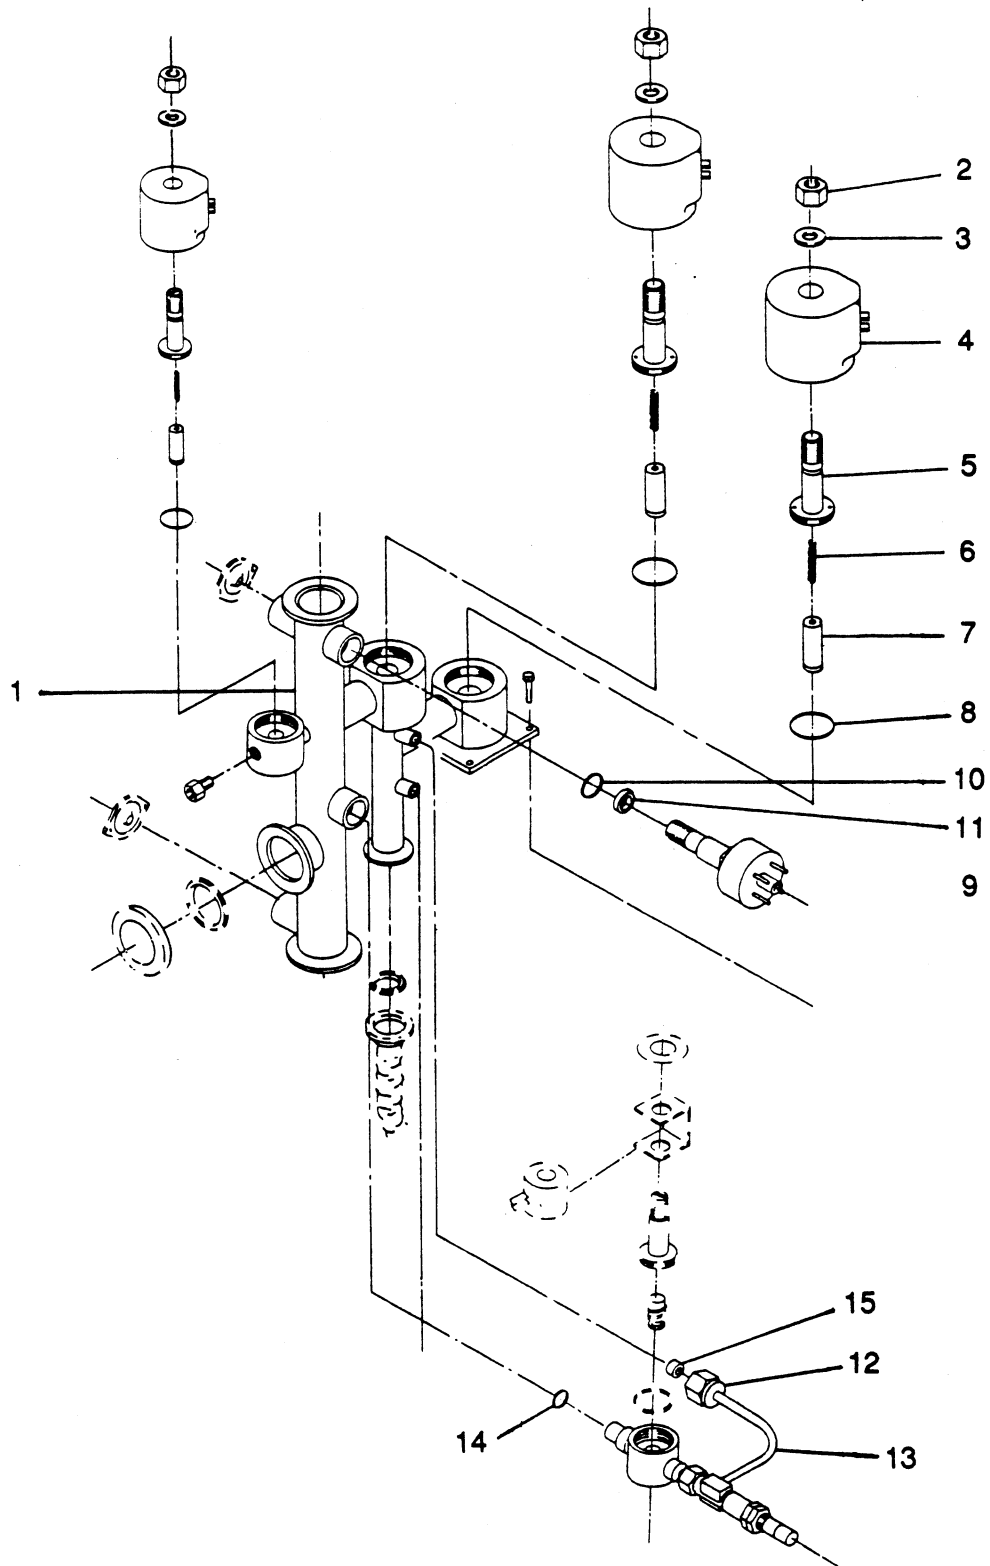

Figure 5-6. Exploded View of Vacuum Manifold
5-3-11 Disassembly of Vacuum Manifold (Refer to Figure 5-6)
- 3 Assemble a new rubber washer (15), and O-ring (14), then insert the gross leak assembly (13) into its appropriate hole as shown in Figure 5-6. The O-ring is gently pushed in similar to a thermocouple gauge and the other end is tightened with a 9/16 wrench.
- 4 Assemble a new O-ring (10) and washer (11), then install the thermocouple gauge (9) by gently pushing and twisting the gauge body into its appropriate hole.
- a Place the valve spring (6) on the valve actuator (5).
- b Place a new valve actuator O-ring (8) in the vacuum manifold (1).
- c Screw the valve actuator (5) into the vacuum manifold (1) with the valve spring (6) and valve seat (7) in place as shown in Figure 5-6. Tighten the valve body with the spanner or with a screwdriver for the smaller valves.
- d Place the coil (4) on the valve actuator (5), add the washer (3), then tighten the coil holding nut (2) snugly on the top of the valve.